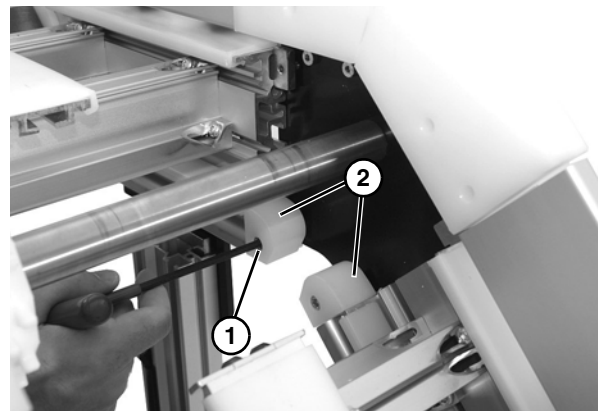

Figure 60
3. Remove socket cap screw (**Figure 60, item 1**) for each belt guide (**Figure 60, item 2**) on side of upper knuckle assembly. Repeat on opposite side.